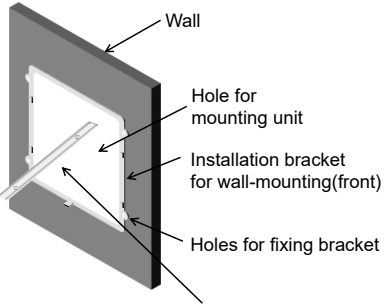

Fig. 3.4.2
- Insert the rear bracket (*1, 2) through the hole into the back of the wall (Figs. 3.4.2, 3).